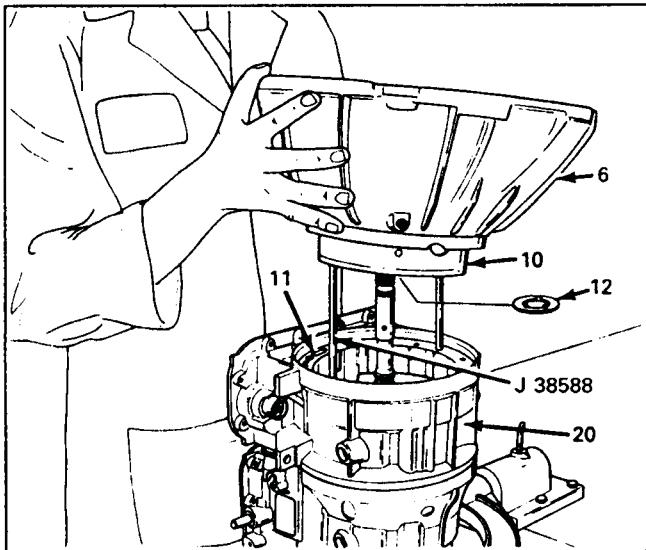

Figure 109
35. Install the pre-selected selective thrust washer from above, onto the oil pump assembly with tabs down, retain with petroleum (See Figure 109).
36. Install the pre-assembled converter housing and oil pump assembly by placing over guide pins J-38588 and seating to the adapter case, as shown in Figure 109.